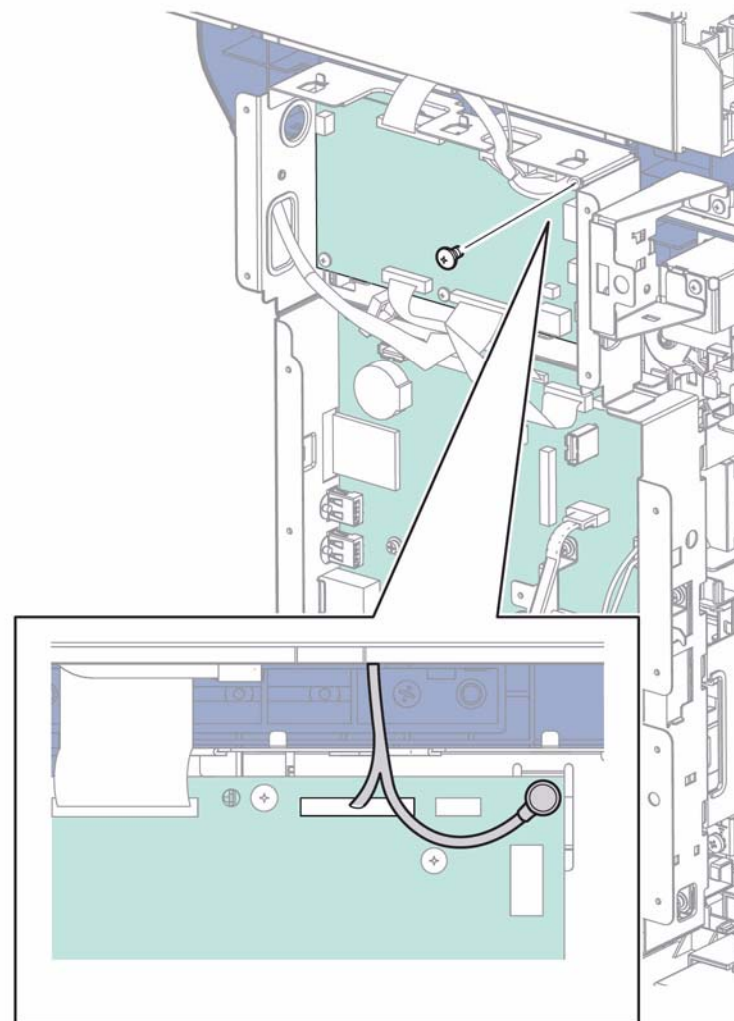

Figure 1 Disconnect the DADF
7. Refer to Figure 1 to locate and disconnect the DADF and 1 screw (silver, M3, 6mm) that secures the ground wire from the IIT Control Board.